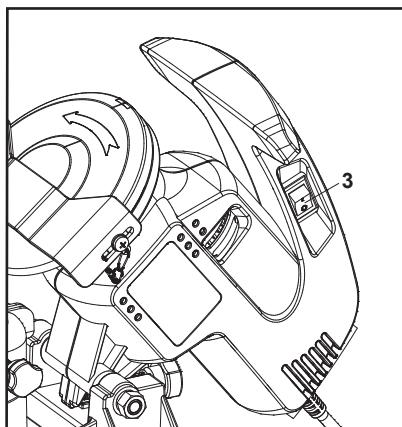

Fig. 9
1. Switch the product on by pressing the on/off switch (3) at "I" marking (Fig. 9).
2. Switch the product off by pressing the on/off switch (3) at "O" marking.